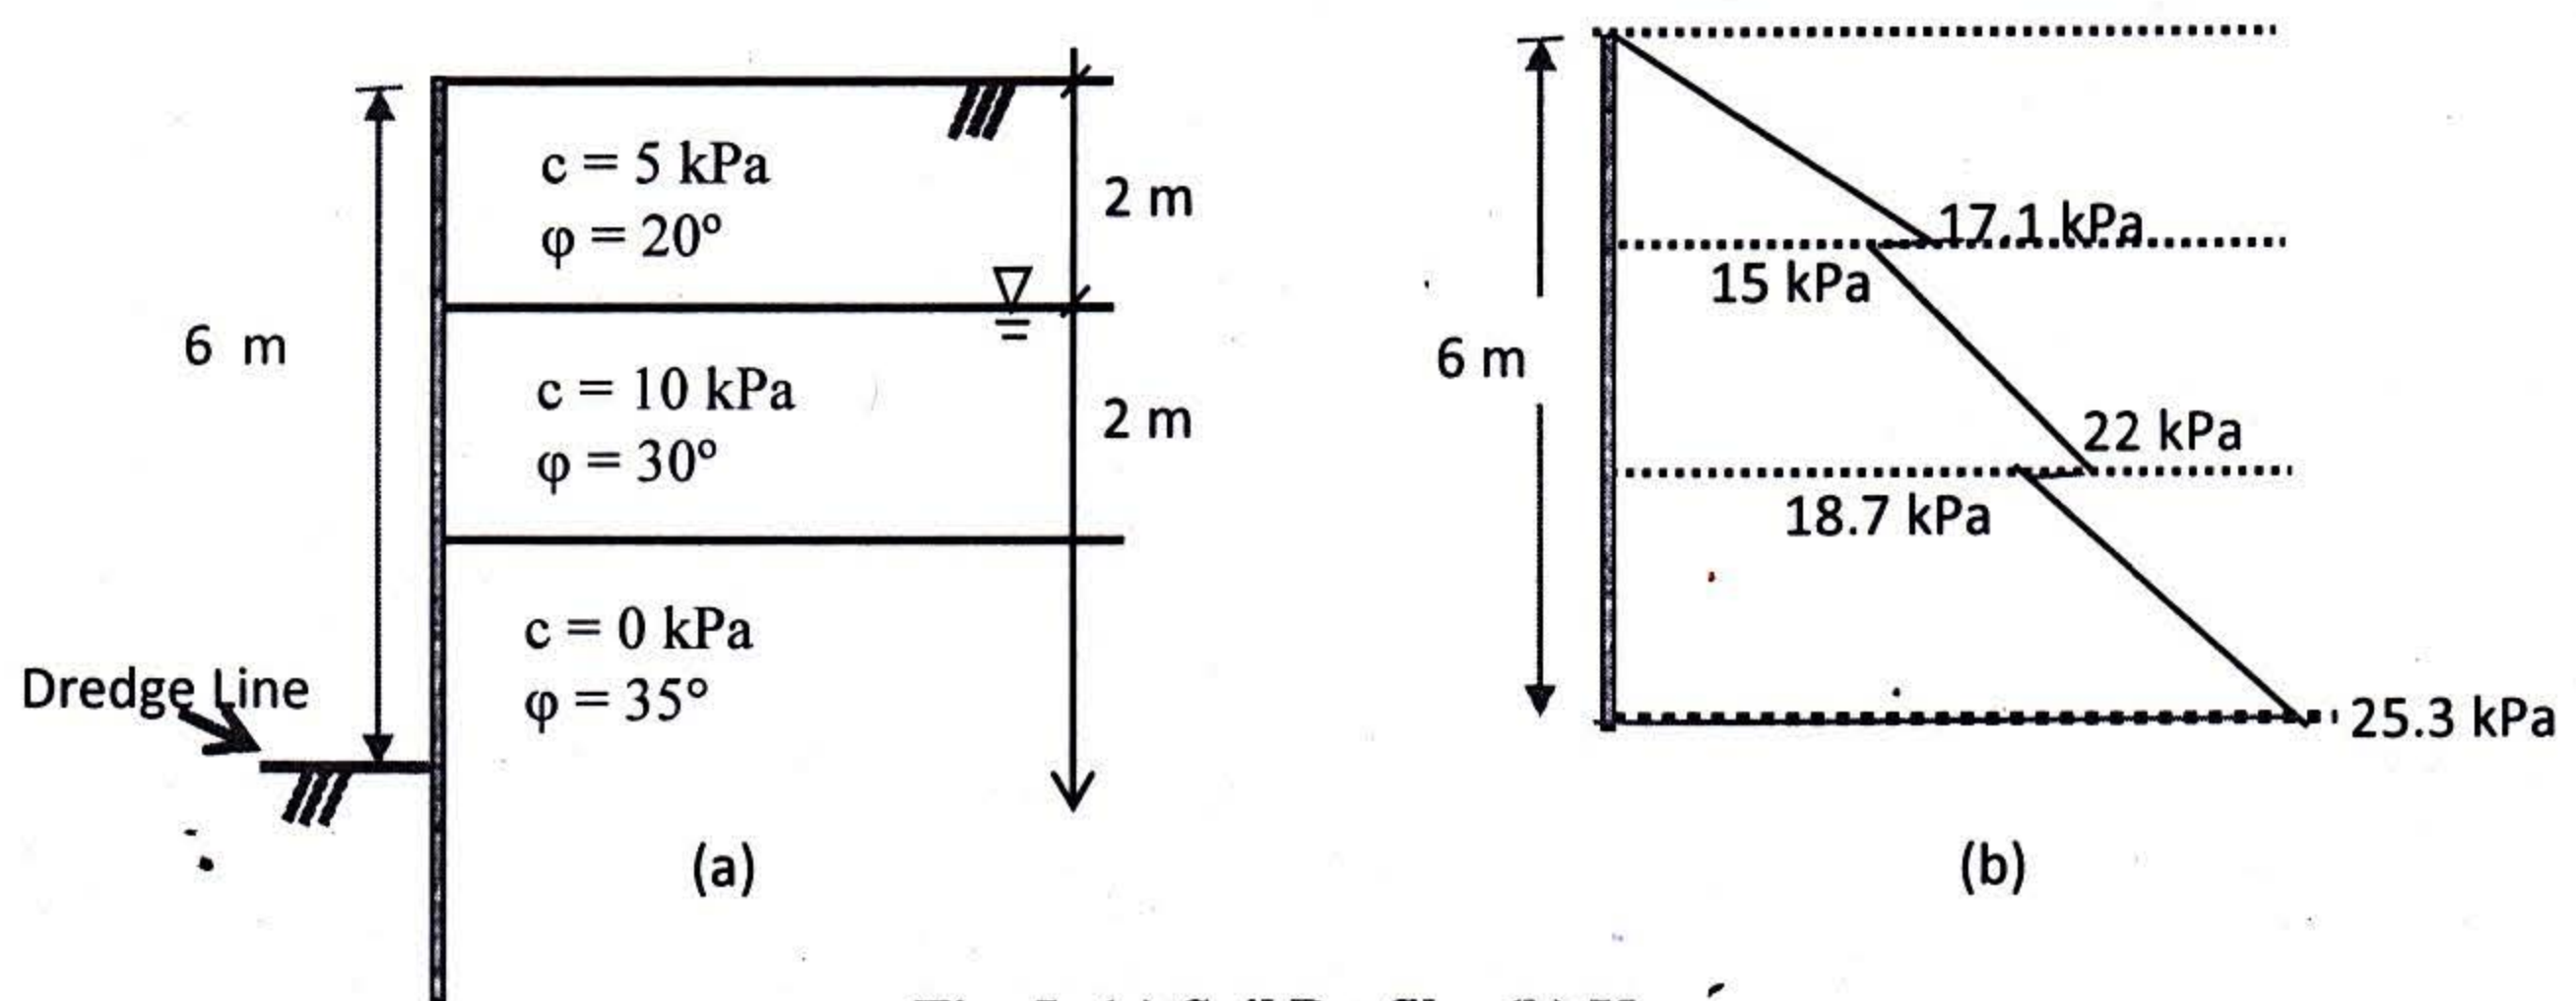

Fig. 5: (a) Soil Profile; (b) $K_0\sigma_v'$
6. In Fig.5, the soil profile and $K_0\sigma_v'$ diagram are given. Apply Rankine's theory of lateral earth pressure for the following questions: